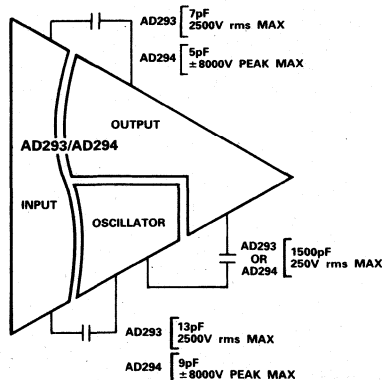

Figure 3. Interelectrode Capacitance and Terminal Ratings
**Capacitance:** Interelectrode terminal capacitance effects are developed from stray capacitance that couple the input and output terminals together. The difference shown in Figure 3 between the AD293 and AD294 is a result of the separate transformer designs. Each terminal capacitance is shunted by leakage resistance exceeding  $3.4 \times 10^9 \Omega$ .
**Terminal Ratings:** CMV performance is given in peak pulse and continuous ac or dc peak ratings. Continuous peak ratings apply from dc up to the normal full power response frequencies. Figure 3 illustrates the AD293/AD294 ratings between terminals.